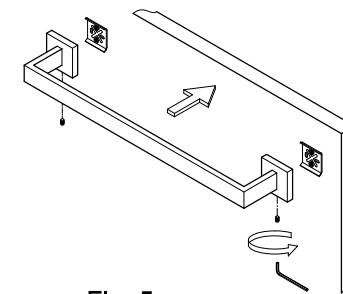

Fig. 5
- Step 7. Insert the unit with holes facing down to the bracket and tighten setscrews with an Allen wrench until the base is tight and secure (fig 5).